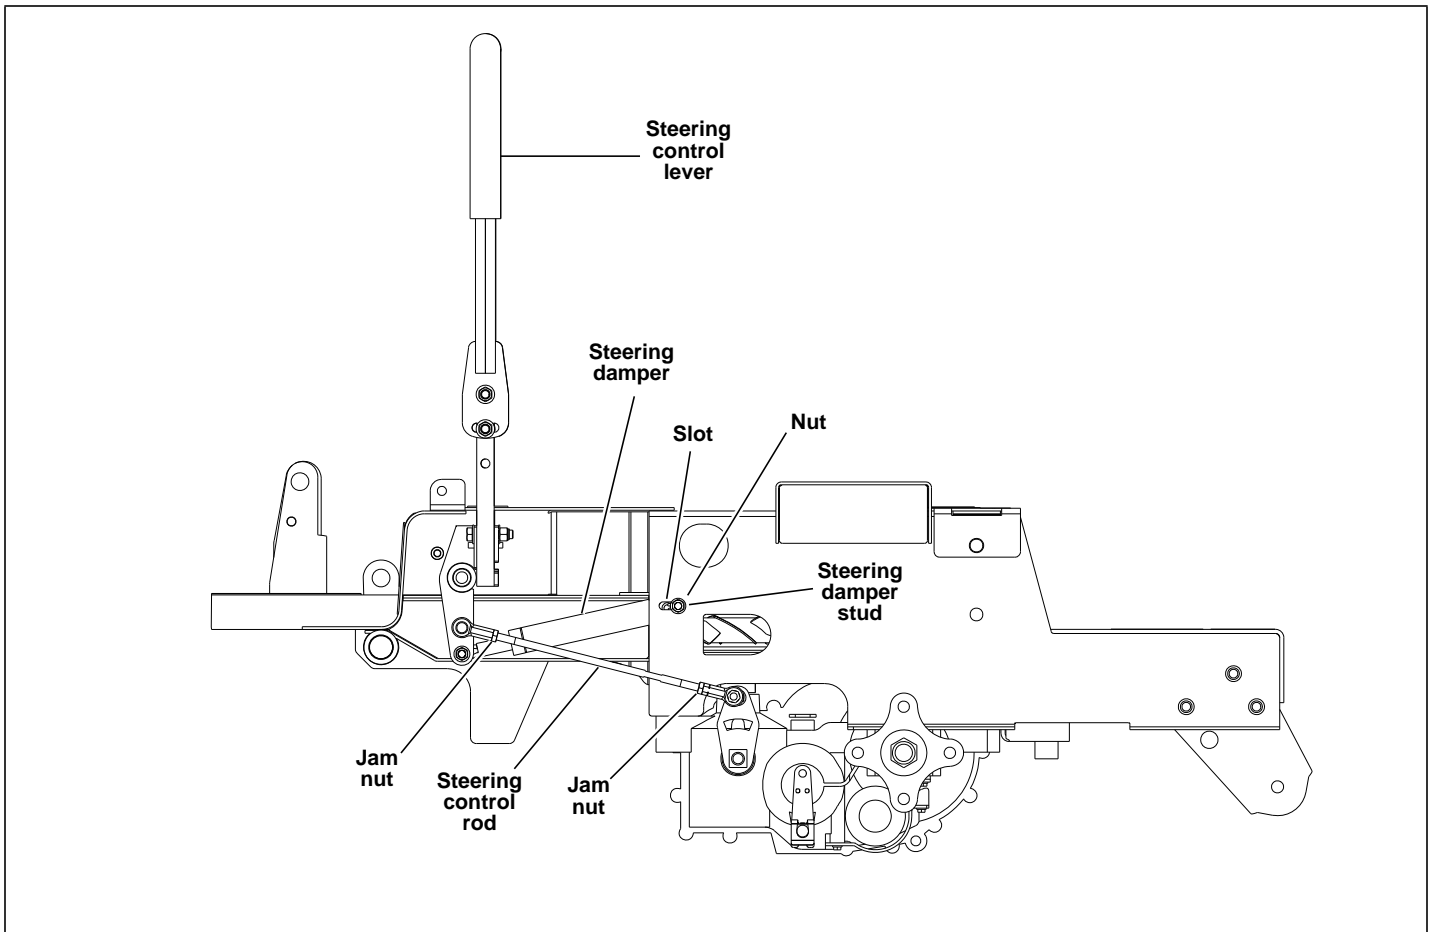

Figure 4-5
4. Loosen the jam nuts on each end of the steering control rod assemblies. Figure 4-5
6. Loosen the nuts on the rear steering damper ball studs. The dampers must be allowed to slide in the slots in the mower frame. Figure 4-5
8. Beginning with the right side of the mower, adjust the steering control rod so that the right side wheel starts rotating forward while holding the steering control lever in the neutral position. Now, adjust the steering rod back the opposite direction to the point when the wheel stops rotating. From that point, turn the steering rod an additional ½ turn in the same direction. This ensures that the steering rod is adjusted so that the transmission control arm is centered in the neutral band of the transmission. Figure 4-5
11. Tighten jam nuts on steering control rod. Figure 4-5
lever should return to the neutral position. Figure 4-5